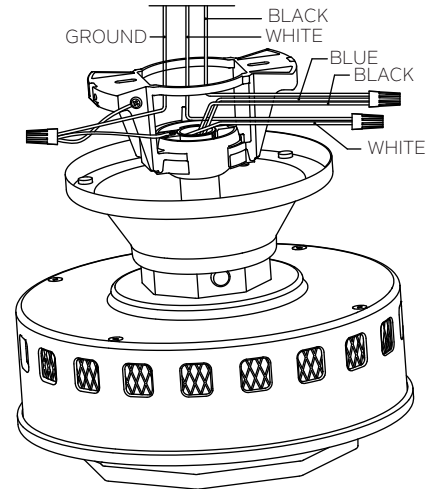

Fig. 12
Step 1. Connect the fan supply BLACK wire and fan light supply BLUE wire to the BLACK household supply wire as shown in Fig. 12.
Step 2. Connect the fan neutral WHITE wire to the household neutral WHITE wire as shown in Fig. 12.
Step 3. Connect GROUND (GREEN) wires from mounting bracket and downrod ball, to GROUND (GREEN) or BARE (COPPER) from house.(Fig. 12)